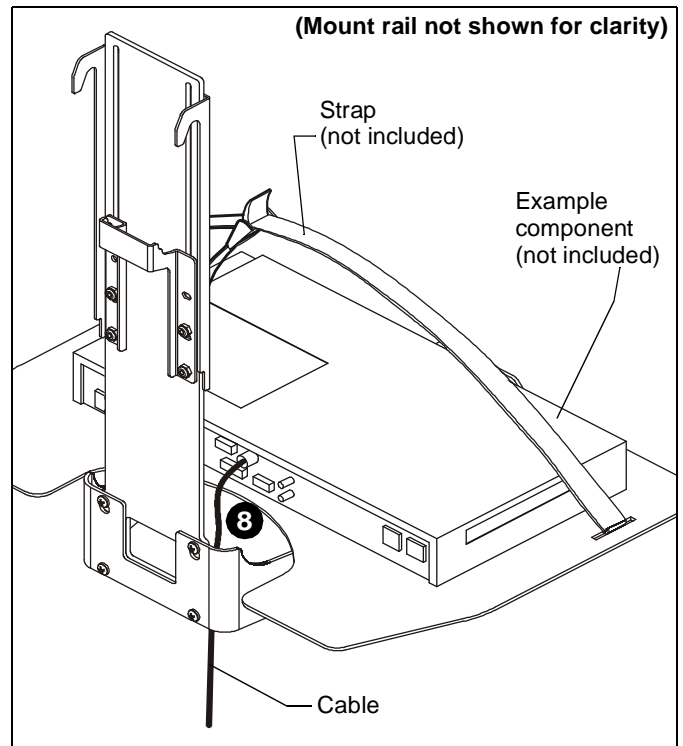

Figure 7
8. Route cable from component (not included) towards back of shelf and down behind the FCA500. (See Figure 7)
NOTE: OPTIONAL: Slots are provided in shelf for strap (not included) to hold component in place. (See Figure 7)